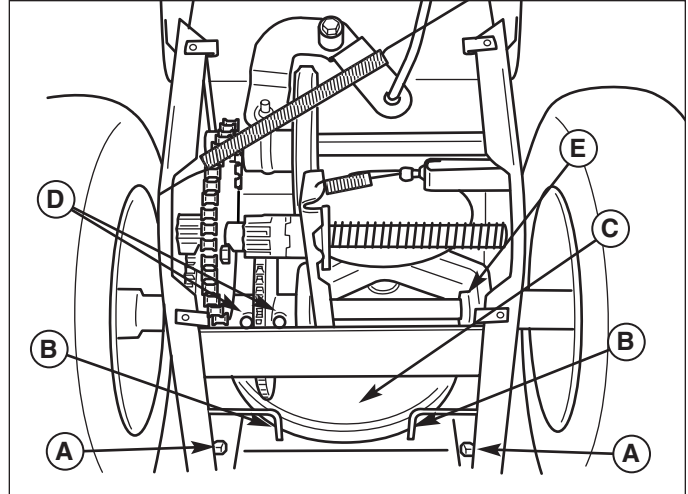

Figure 24. Auger Pulley Belt Stops (shown with bottom cover removed)
- c. Remove six capscrews from bottom cover to snowthrower frame. Loosen nuts (A, Figure 24) on each side to release auger pulley belt stops (B). Move belt stops and remove belt from pulley (C).
- d. Remove the two bolts (D, Figure 24) from the gear assembly.
- Reverse the procedure to install the belts. Be sure there are no twists and the belts are properly seated in the grooves. Adjust the belt stops so there is 1/8" (3mm) clearance between belt and stop. The pattern for both belts is shown in Figure 25. Slide the right axle left fully before tightening the set collar (E, Figure 24).